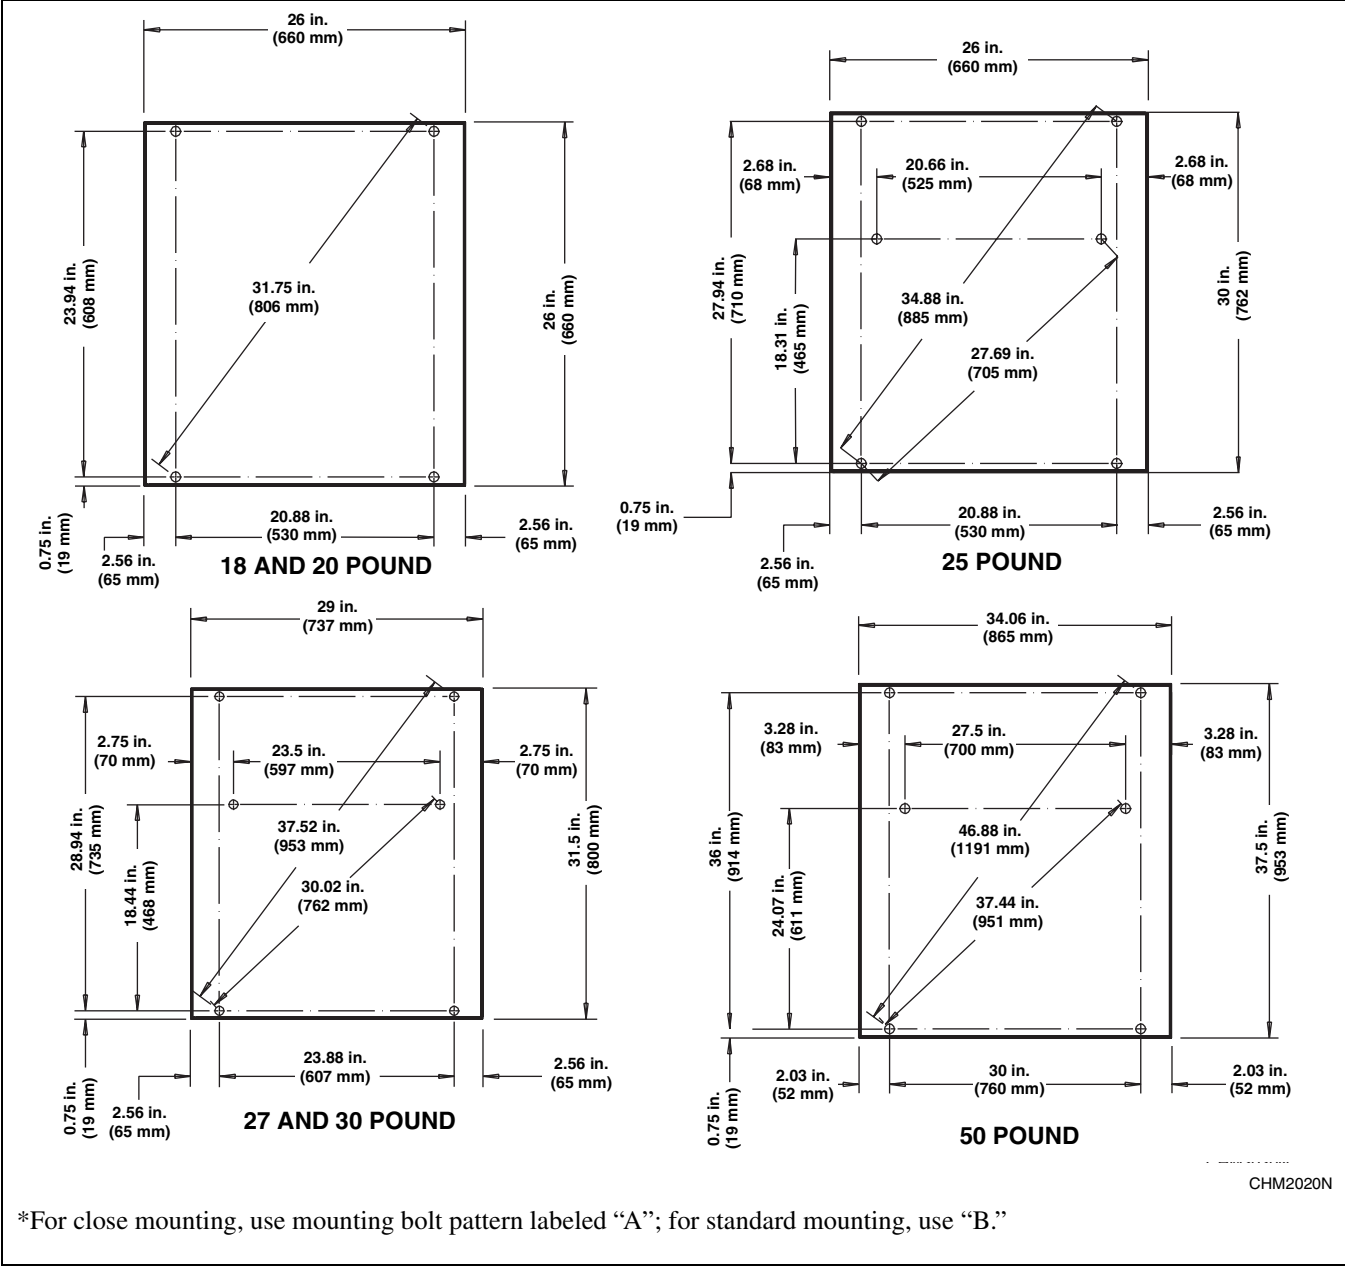
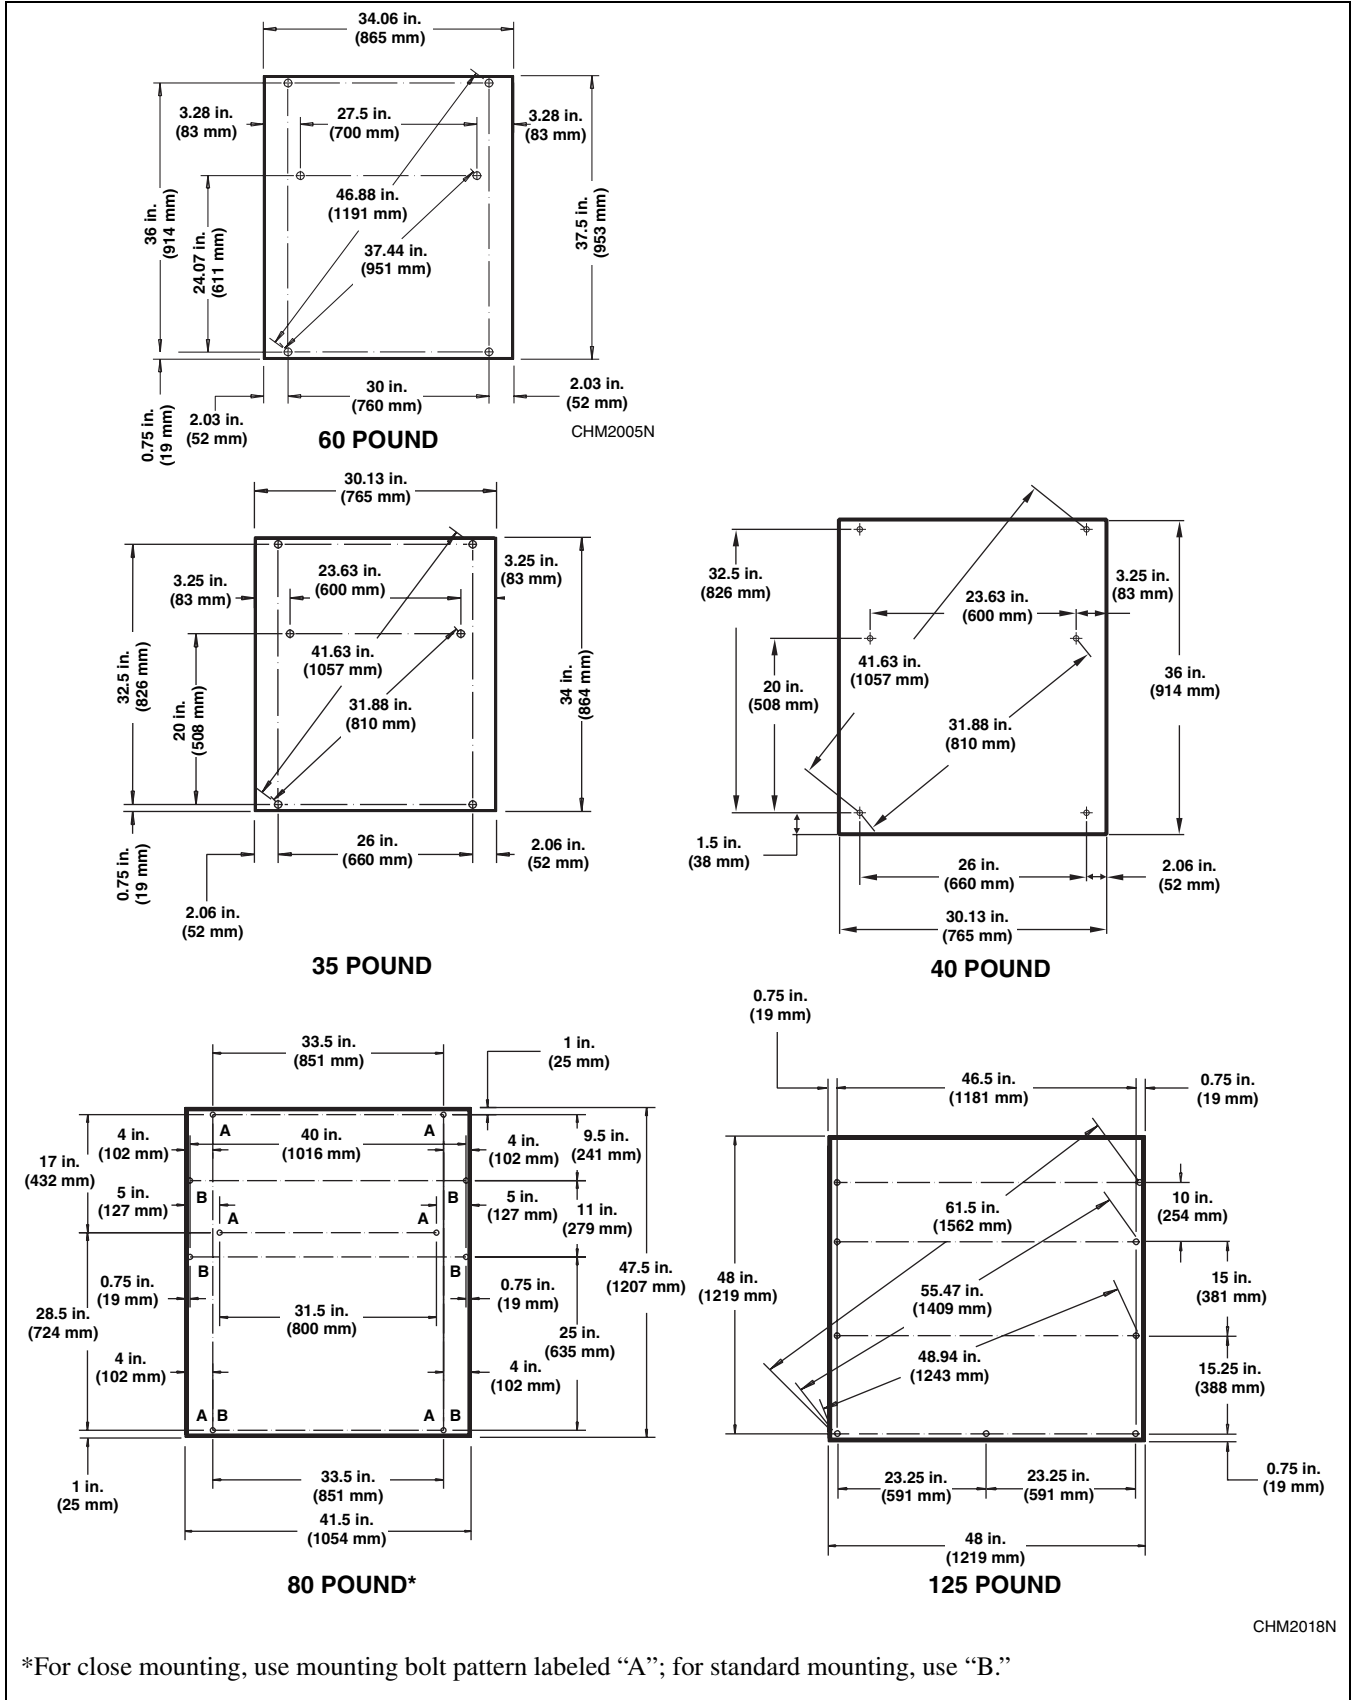

Figure 18
Figure 19
2. Install J-bolts in concrete as shown in the mounting bolt layouts (*Figure 18* and *Figure 19*) following these instructions.
NOTE: There are two different mounting bolt layouts which may be used for the 80 pound capacity machine. Refer to *Figure 19*. The bolt holes marked “A” are to be used for close mounting – machines installed with a 1 inch (25.4 mm) clearance between machines. The bolt holes marked “B” are to be used for standard mounting – machines installed with a minimum clearance of 8 inches (203 mm) between machines.